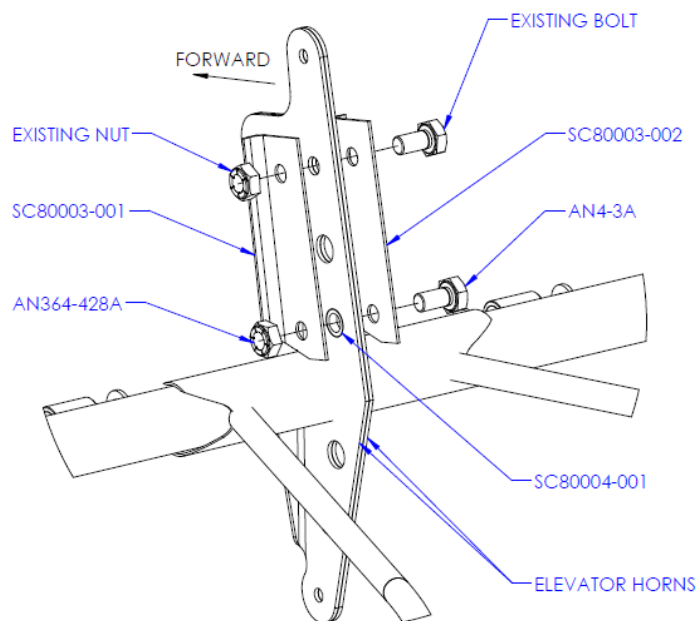

Figure 2 – Elevator Horn Plates Installation
3. Install the elevator horn plates, SC80003-001 (left) and SC80003-002 (right), on either side of the elevator horn with the bent flange to the front. See Figure 2 for installation details.